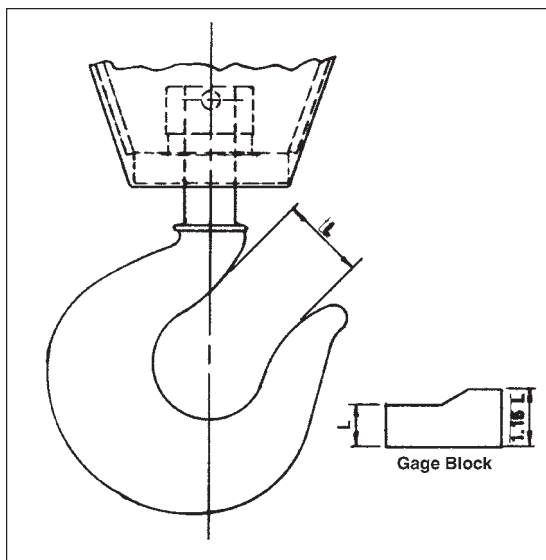

Figure 5-1. Method of measuring hook throat opening
- as. DO NOT operate hoist with hooks that have opened up. See Figure 5-1.
- Check throat opening of hook. (Refer to Figure 5-1.) It is recommended that upon receipt of the hoist a measurement be made and recorded of the hook throat opening. OSHA Standards require that the hook be replaced if the throat opening exceeds 15 percent of the original opening, or if the hook is twisted more than 10 degrees from the unbent plane. A gage block, properly identified to the hoist, similar to the one shown in Figure 5-1, is suggested to be made for each hook for use in these measurements. For hooks with certain kinds of safety latches it may be necessary to remove latch to measure hook opening.